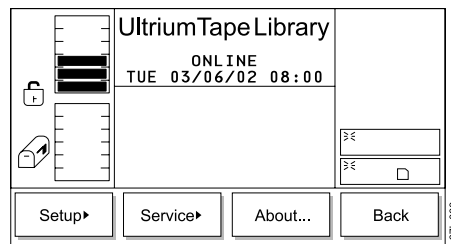

Figure 280. Main Menu (alternate screen)
- From the Main Menu's initial screen, press the button below the **More** softkey. The Main Menu's alternate screen displays (see Figure 280).